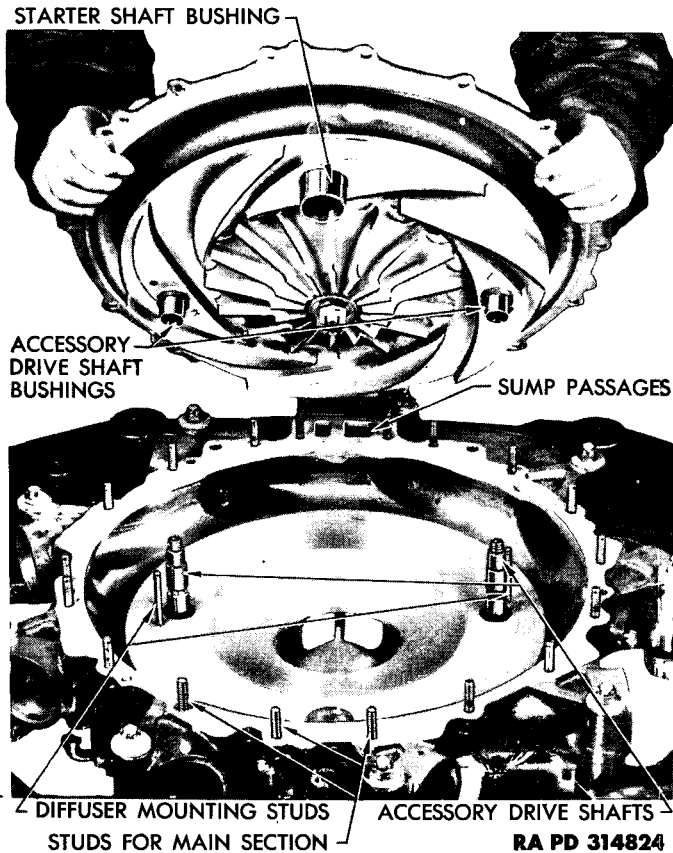

Figure 202 — Installing Diffuser Section on Rear Crankcase Section
j. **Install Diffuser Section.** Coat matching flanges of rear and diffuser crankcase sections with sealing compound. Spread compound very thin. Position diffuser section on rear crankcase section studs (fig. 202). Align the section by noting the position of the sump drain openings. Tap the diffuser section with soft hammer to make sure that pilot on diffuser section enters the matching flange in the rear crankcase section. Install two diffuser section retaining nuts on studs. Tighten nuts to *not more than* 80 inch-pounds of torque. Install cotter pins through studs and nuts, and secure the cotter pins.